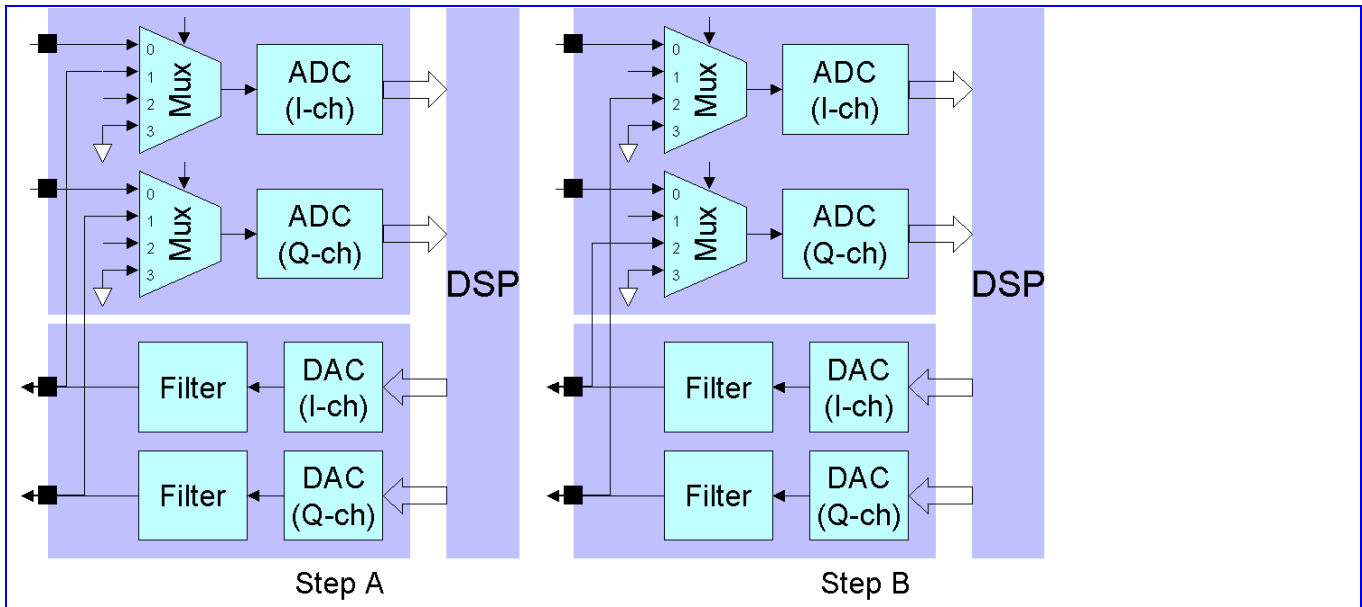

Figure 78 Downlink RX and Up-link TX Gain Mismatch Measurement (A) I/Q TX connect to I/Q RX (B) I/Q TX connect to Q/I RX
- A. The uplink I-channel output are connected to the downlink I-channel input, and the uplink Q-channel output are connected to the downlink Q-channel input. This can be achieved by setting **ISEL [1:0] = '01'** and **QSEL [1:0] = '01'** (shown in **Figure 78 (A)**).
- B. The uplink I-channel output are then connected to the downlink Q-channel input, and the uplink Q-channel output are connected to the downlink I-channel input. This can be achieved by setting **ISEL [1:0] = '10'** and **QSEL [1:0] = '10'** (shown in **Figure 78 (B)**).